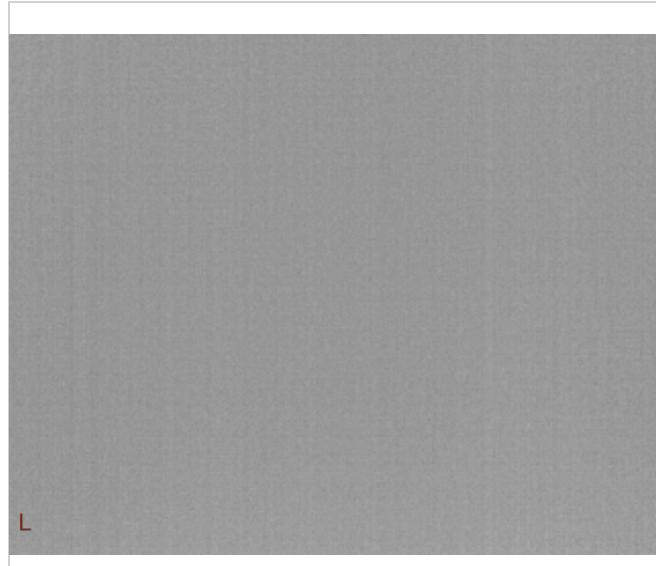

FIGURE 39: "LOW-GAIN" SYMBOL (FACTORY-DEFAULT); LOWER LEFT CORNER
- **Low-Gain State**: By factory default, the symbol shown in Figure 39 is displayed whenever the camera is operating in low-gain state. See Section 6.5 for a full description of this state.